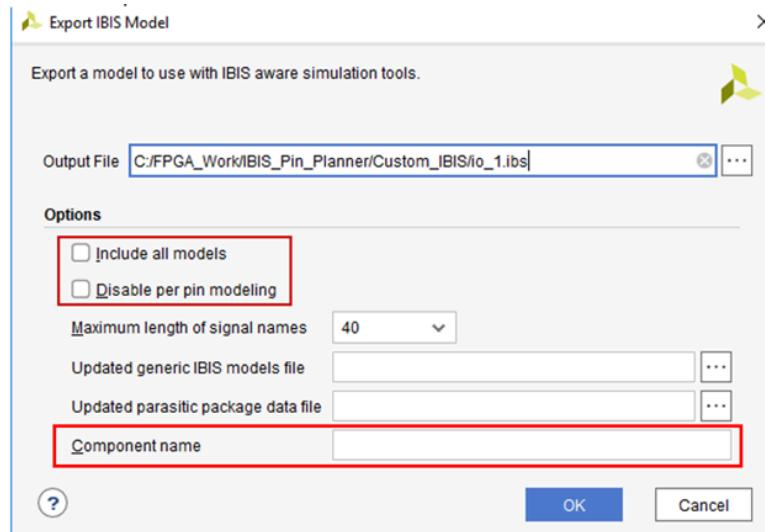

Figure 15: Export IBIS Model, I/O Planner
- Export IBIS Model (Figure 15)